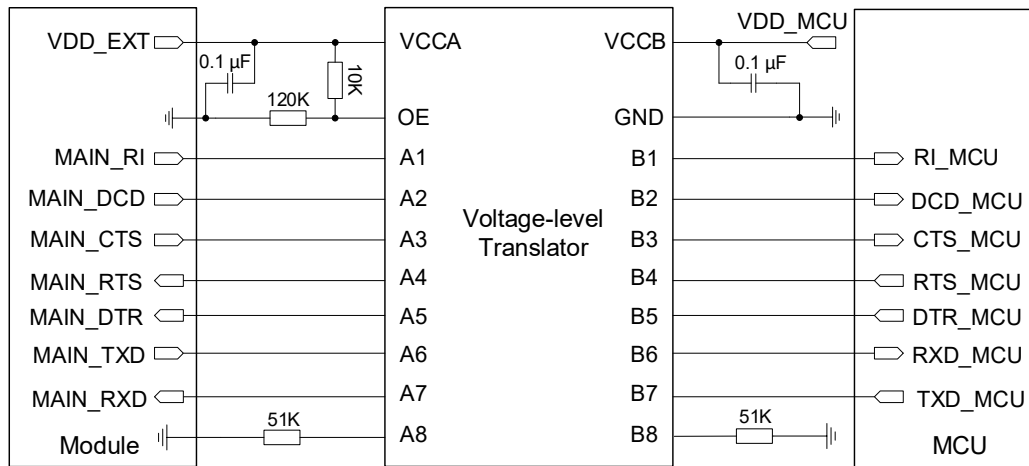
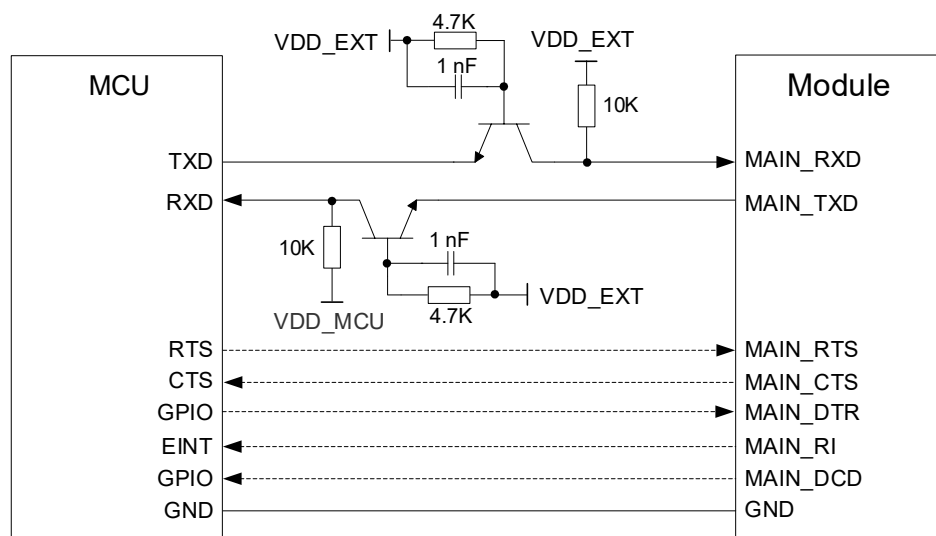

Figure 21: Reference Design of UART with Voltage-level Translator (Main UART)
Figure 22: Reference Design of UART with Transistor Level-shifting Circuit (Main UART)
4. The level-shifting circuits (**Figure 21** and **Figure 22**) take the main UART as an example. The circuit of the debug UART is connected in the same way as the main UART.